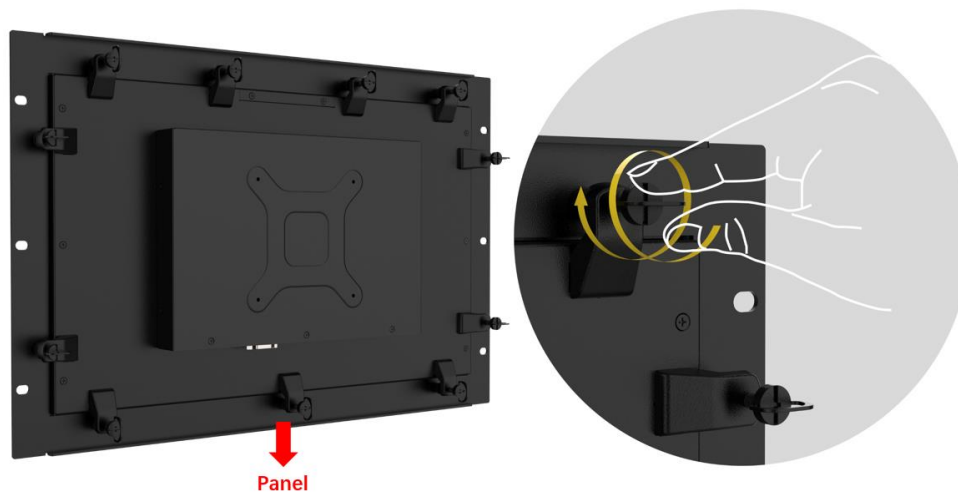

Figure 3-18: Panel Mounting Clamp Installation
Step 5: Tighten the screws that pass through the panel mounting clamps until the plastic caps at the front of all the screws are firmly secured to the panel (Figure 3-18).